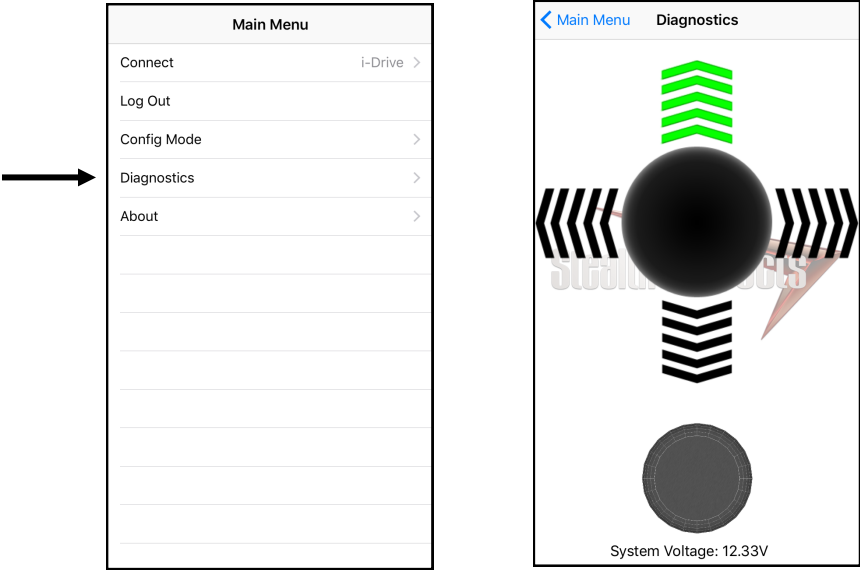

Figure 8
- 3. Test the assignments on your i-Drive device by activating each channel. When the direction assigned to the channel has been activated, the direction should light up in green. (Figure 8)